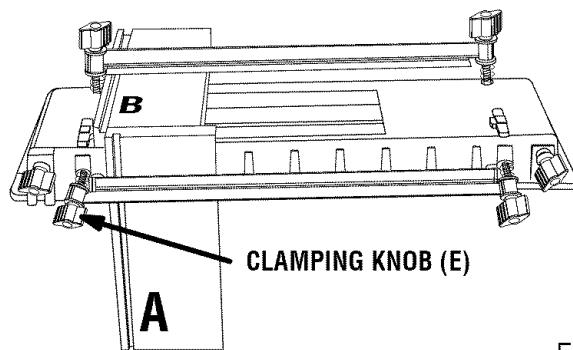

Fig. 23
- Tighten clamping knobs (E) on top clamping bar to hold board (B) securely.
- Relocate board (A) so that it is flush with the top of board (B) and against 2-way stop on left front of dovetail base. See Figure 23.
- Tighten front clamping knobs (E) to hold board (A) securely.
NOTE: Once the router is set-up and all adjustments made, you can refer to figures 23, 26, 27 and 28 for proper placement of your boards each time you cut offset dovetail joints for a drawer or box.